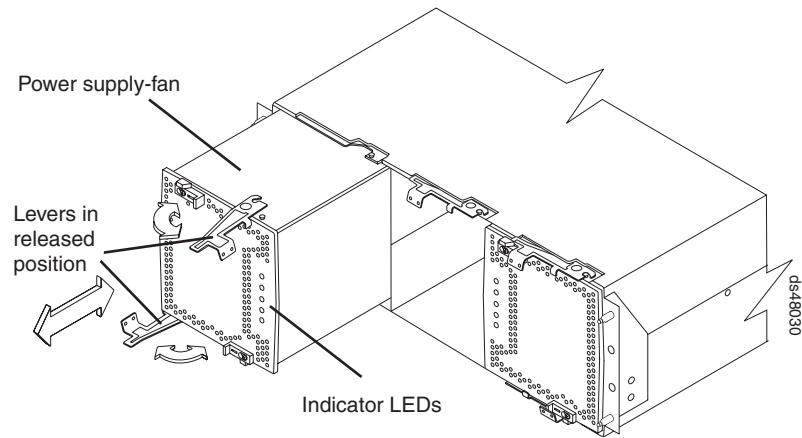

Figure 21. Replacing the power supply and fan units
1. Replace the power supply and fan units. Figure 21 on page 45 shows the locations and correct orientation of the power supply and fan units and the power supply and fan unit levers. The power supply and fan units are keyed to always fit into the enclosure in the proper orientation. When the component is oriented correctly, a relief along one edge of each component aligns with a ledge in the enclosure. Before installing the component, turn the component so that the indicator LEDs are near the center of the storage subsystem.